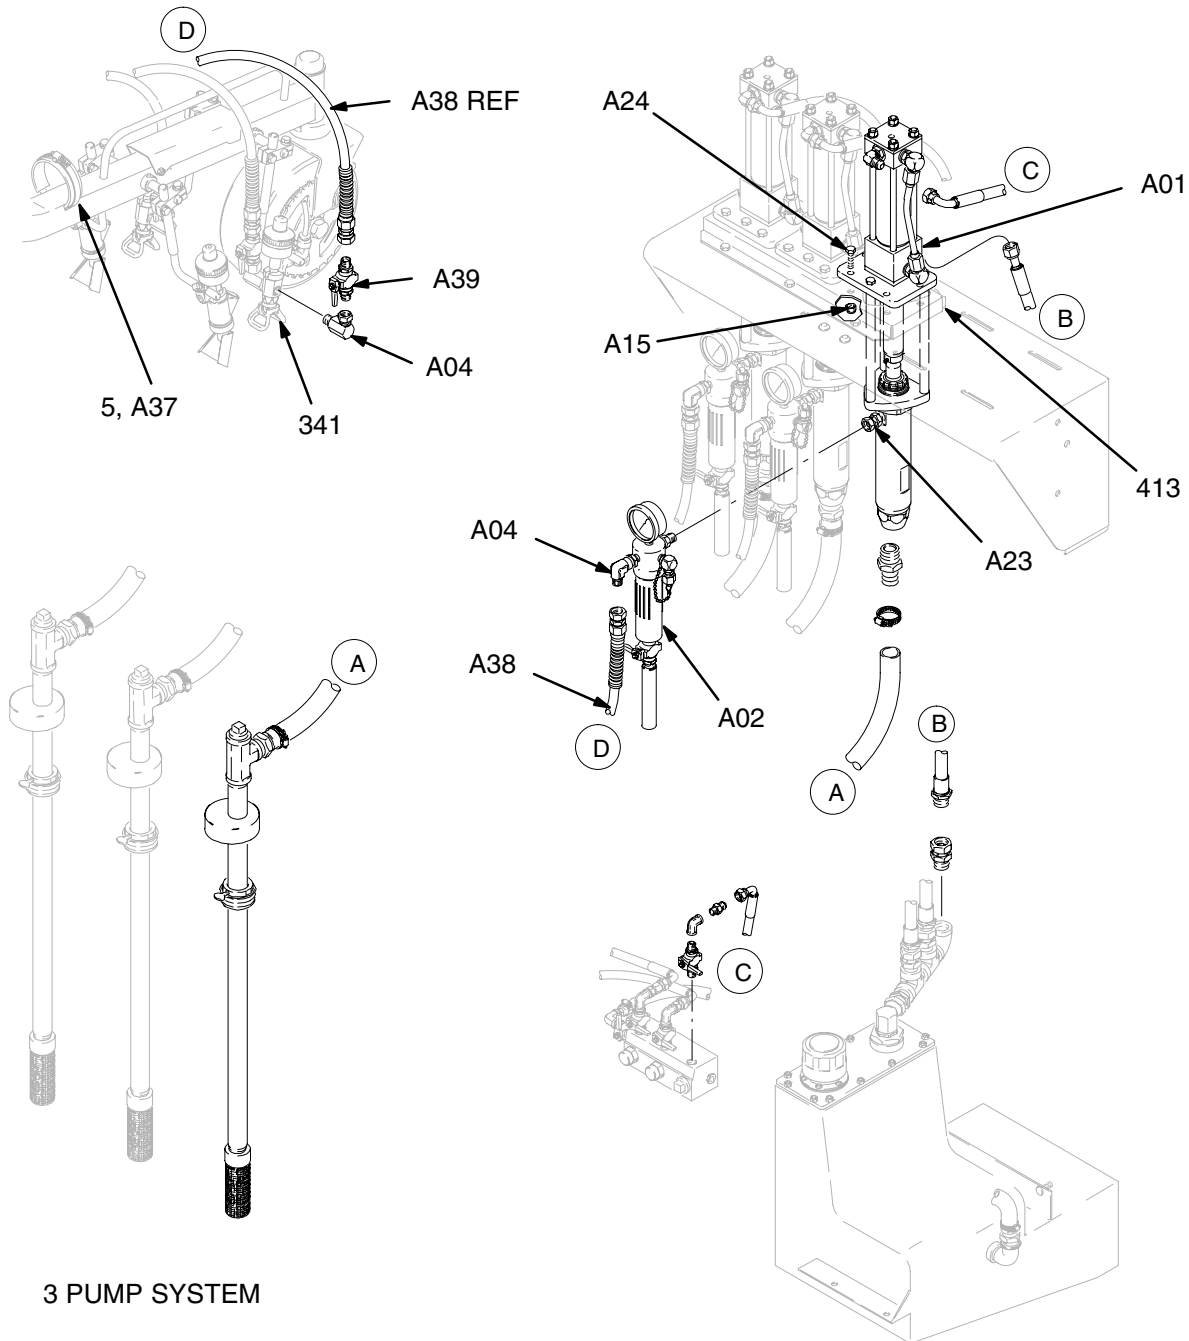

Fig. 2
1. See Figs. 2 and 3. For 3 pump configuration, set-up syphons as shown in Figs. 2 and 3.